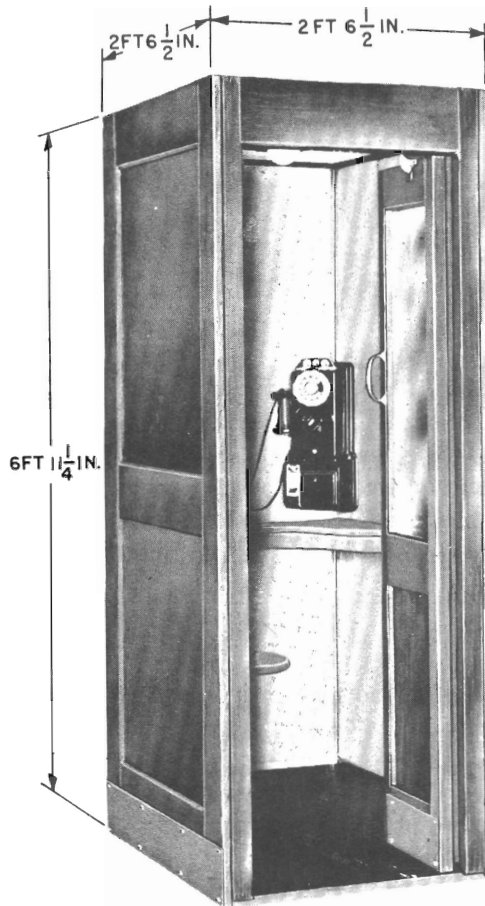

Fig. 1 — 6-type Booth
3.01 The 5- and 6-type booths are similar except that the 6-type is equipped with a seat (Fig. 1). The shelf and backboard, therefore, are mounted lower in the 6-type than they are in the 5-type booth.